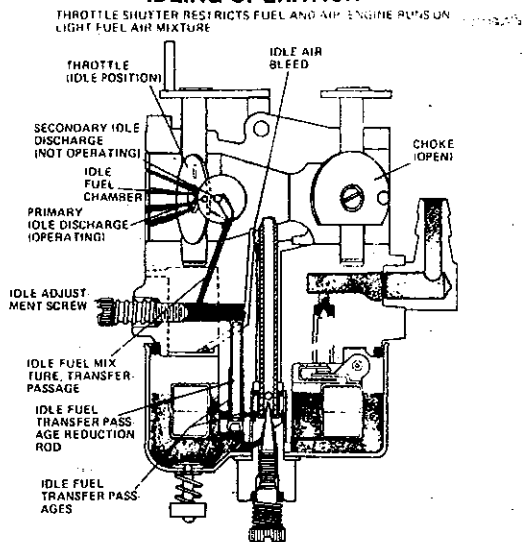

Figure 3
- C. At IDLE, (See Figure 3) a relatively small amount of fuel is required to perate the engine. The throttle is almost closed, shutting off the fuel supply from all except the one idle fuel discharge orifice so that the suction created by the engine draws fuel only from that orifice.